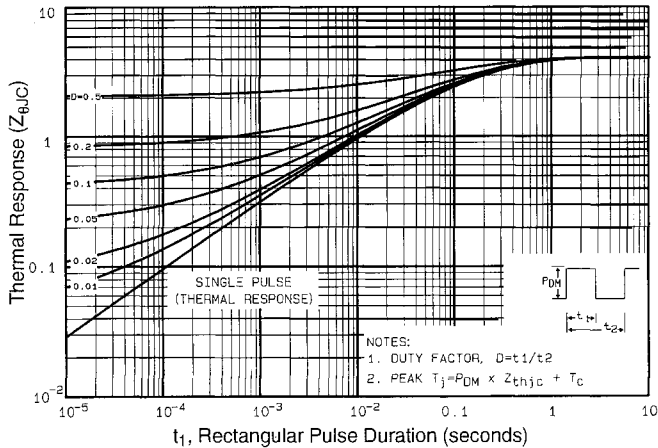

Fig 11. Maximum Effective Transient Thermal Impedance, Junction-to-Case
① Repetitive rating; pulse width limited by max. junction temperature (See Figure 11)
③ $I_{SD} \leq -3.9\text{A}$, $di/dt \leq 95\text{A}/\mu\text{s}$, $V_{DD} \leq V_{(BR)DSS}$, $T_J \leq 150^\circ\text{C}$
⑤ $t=60\text{s}$, $f=60\text{Hz}$